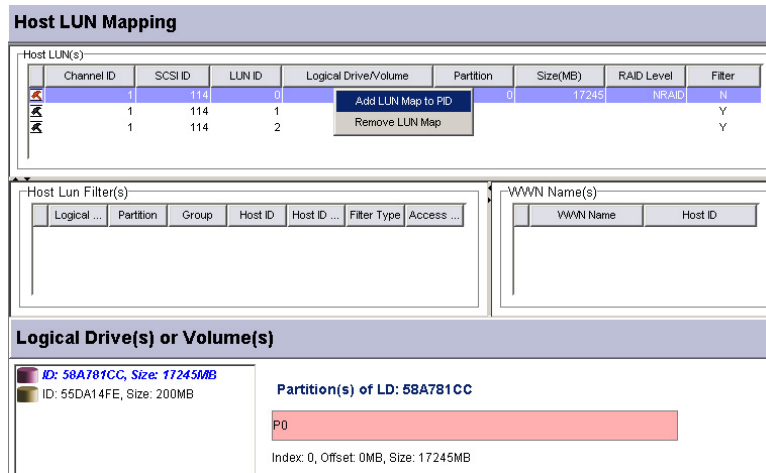

Figure 10-2: Selecting the Host Channel ID Number
**Step 2.** The Host LUN Mapping window should appear on the right. Right-click on the Host LUN(s) sub-window to display **PID** (Primary controller ID)/**SID** (Secondary controller ID) command menu as shown in *Figure 10-2*. Infortrend's controllers or subsystems always come with pre-configured IDs. If it is necessary to add alternative IDs, please select the **Channel** window from the navigation panel.
-  **Step 1.** Follow the steps listed in *Section 10.1* above to access the **LUN Map Setting** window shown in *Figure 10-2*.